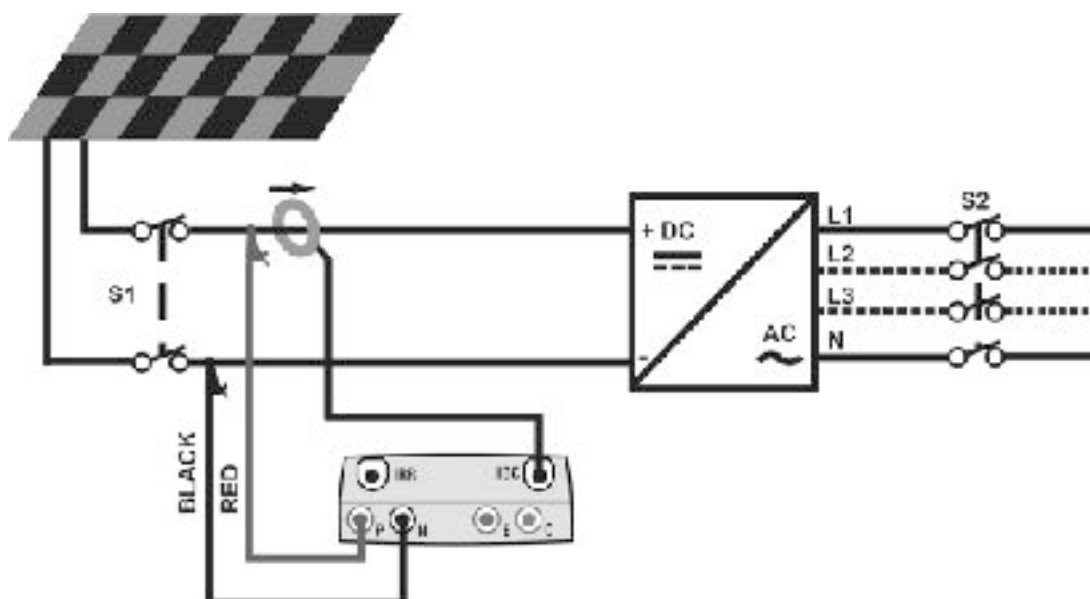

Fig. 5: Instrument connection for measuring PV installation parameters without SOLAR-02
3. Connect the inputs **P** and **N** respectively to the positive and negative output of the string, respecting the colours indicated in Fig. 5
- Connect the DC current clamp to the positive output conductor of the string, **respecting the direction of the arrow** found on the clamp itself as indicated in Fig. 5. Position the clamp so that the jaw is not near the negative conductor.